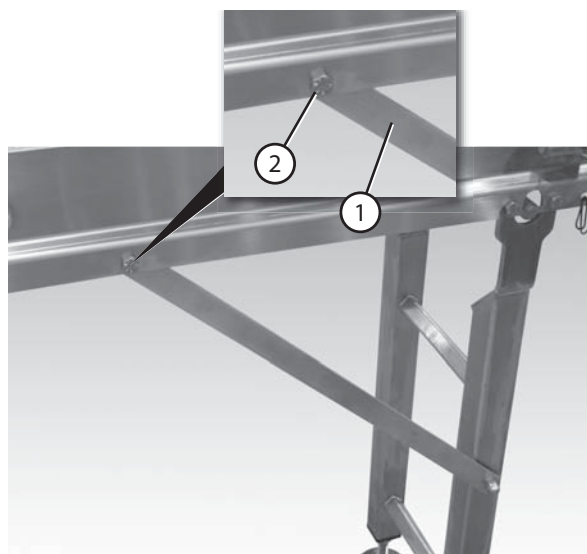

Figure 18
2. Attach the opposite end of the bracing bar (**Figure 18, item 1**) to the conveyor with an M10 screw (**Figure 18, item 2**).